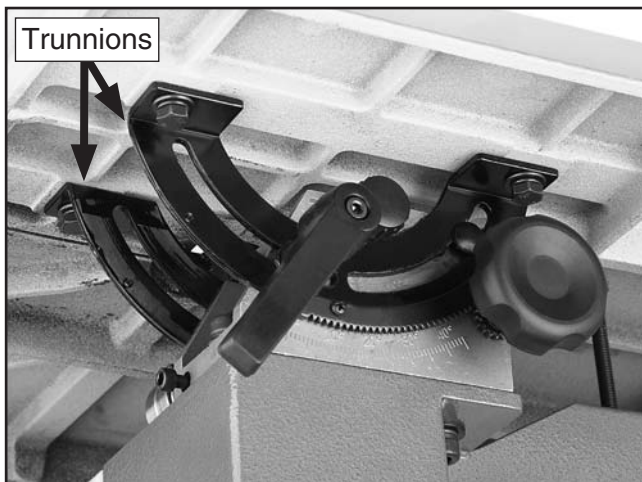

Figure 25. Mounting the table.
4. **Model G0514X:** Secure the table to the trunnions, as shown in **Figure 25** with the (4) M8-1.25 x 16 hex bolts, 8mm lock washers, and 8mm flat washers.